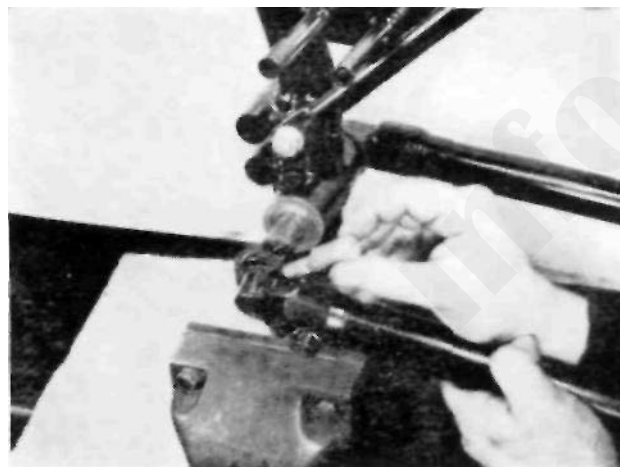

FIG. 70
**The swinging arm** (Fig. 70). If movement develops between the swinging arm and the main frame, this does not necessarily indicate that the two spindle bushes are worn.